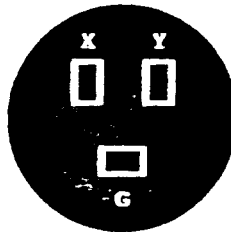

Figure 1.8 - Series 400S, PDU Plug Pinout
- ☐ 4. Turn on circuit-breaker CB2. Using a voltmeter, check the AC power for the proper input voltage. The voltage should be between a minimum value of $208 \pm 5\%$ VAC to a maximum value of $240 \pm 5\%$. Take this measurement at the power jack labeled "Service Power/Monitor" located near the lower, right-hand edge of the PDU. (Refer to Figure 1.8 for pin assignment).